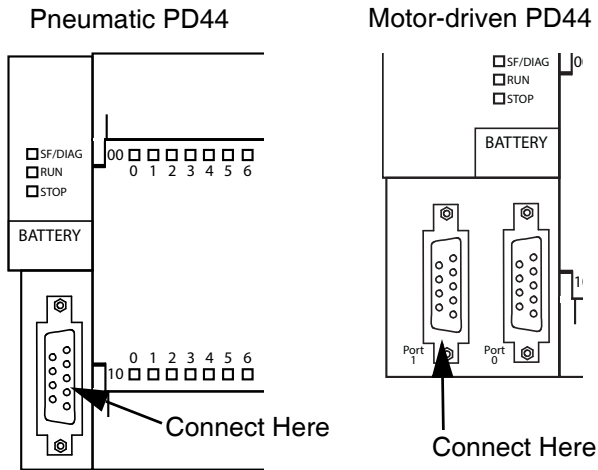

FIG. 8: Ribbon Cable Connection at the PLC
17. Remove the existing ribbon cable from the PLC and replace it with the new ribbon cable. *On the pneumatic valve PD44 control box*, there is only one RS-485 port located below the battery as shown in Figure 8.
1. With the power still off, remove the battery from the PLC. See Figure 8 for the location of the battery.